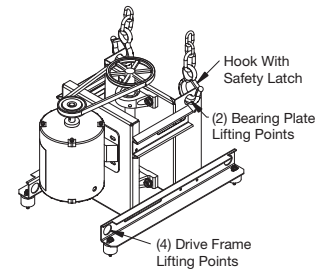

Figure 3 — Lifting Lugs
- Use lifting lugs on the drive frame to lift and place the unit on top of curb. See Figure 3.